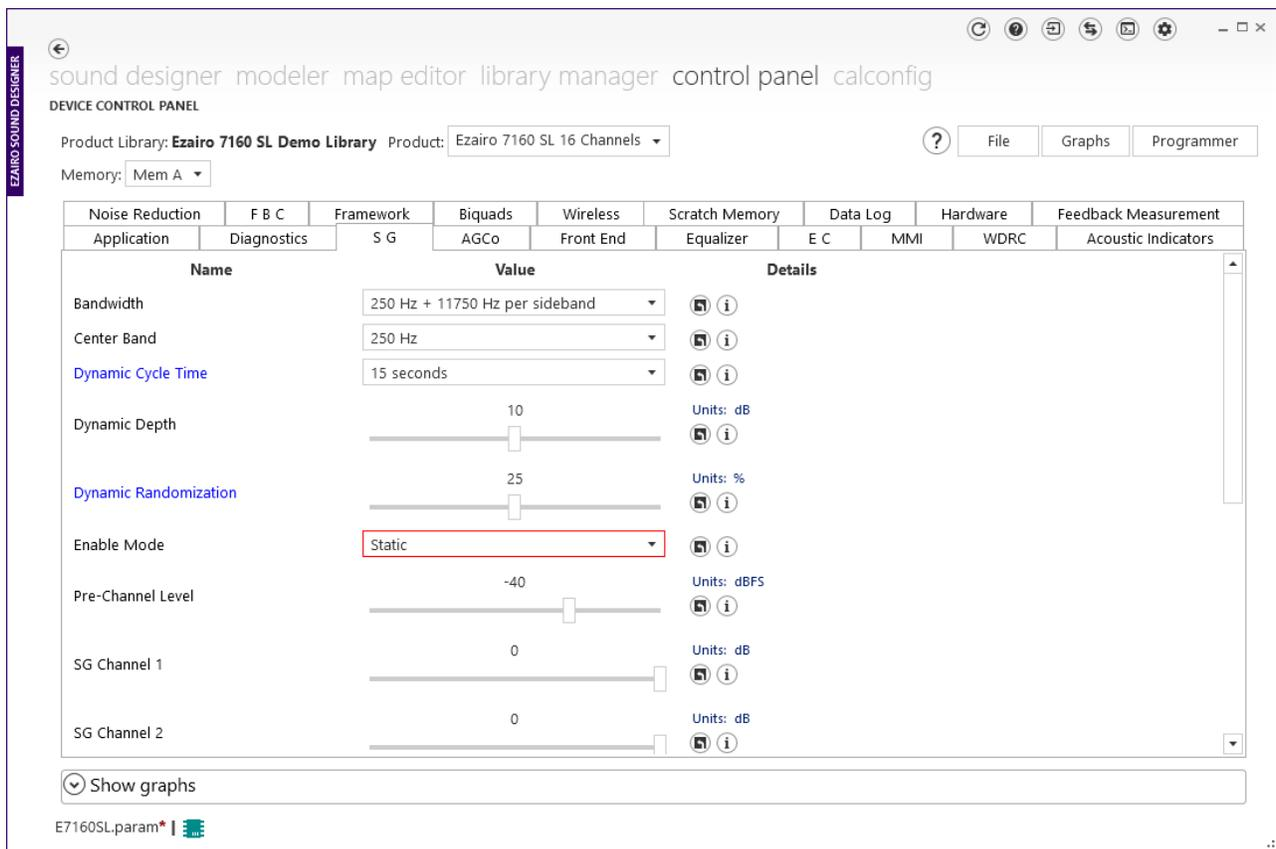

Figure 12. Enabling the Sound Generator
4. Enable the sound generator by selecting **Static** from the drop-down menu for the **Enable Mode** parameter. The Control Panel screen needs to look like the figure "Enabling the Sound Generator " (Figure 12).